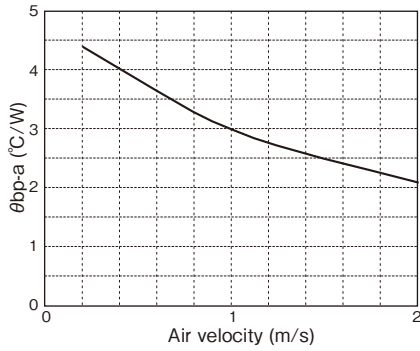
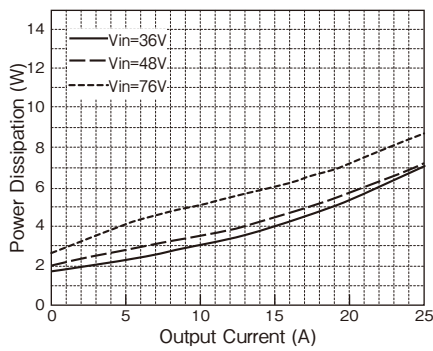

Fig.1-3 Thermal resistance at Baseplate-Air vs Air velocity (typical value)
Fig.1-4 PAQ100S48-1R2/B Power dissipation vs Output Current (Output voltage: Nominal, Ta=60°C; typical value)
Forced cooling to power module improve radiation capability more than convection cooling. Figure 1-3 indicates thermal resistance value between baseplate and air at standard vertical mounting. For details on standard vertical mounting, refer to "PAQ-S48 Series Instruction Manual" Figure 1-4 to 1-8 indicates power dissipation (Pd) of each models at following condition.
Air Velocity is as shown in Fig.1-3.
- 1) Data shown in Fig.1-3 to 1-8 is the typical value and it changes depending on measurement condition. Recommend to design with sufficient margin against calculation value.
- 2) When the condition of input voltage and output voltage are different and it is impossible to determine power dissipation (Pd) from Fig.1-4 to 1-8, calculate power dissipation as follows.